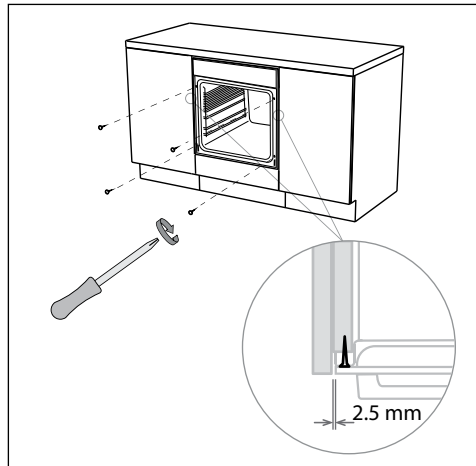

Figure 1 Securing the oven to the cabinetry
- *Use the supplied screws to secure the oven to the cabinetry. Do not over-tighten the screws. (See Fig. 1)*